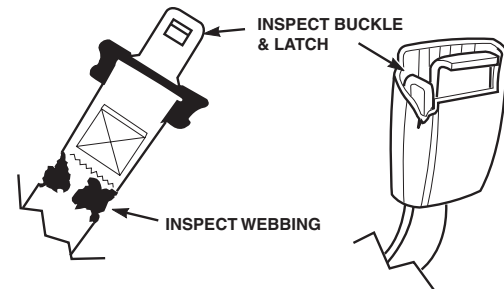

Figure 2-1 Seat Belt Inspection
1. Check the full length of the seat belt webbing for cuts, wear, fraying, dirt and stiffness. See Figure 2-1.
3. Check the buckle and latch for proper operation and determine if the latch plate is excessively worn, deformed, or of the buckle is damaged or cracked. See Figure 2-1.